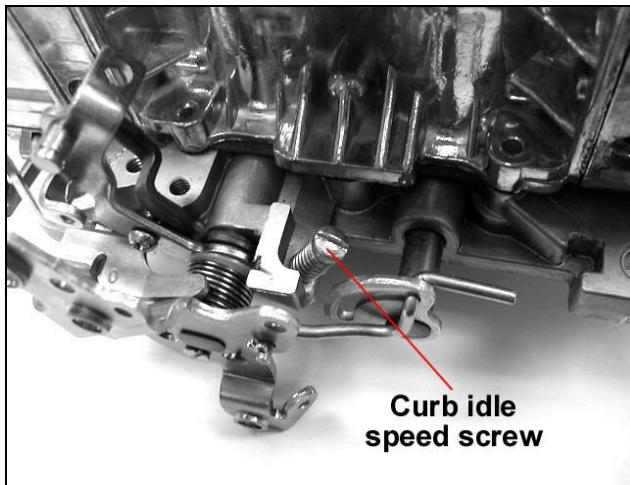

Figure 8
3. Now that the idle mixture is set, it may be necessary to go back and reset the idle speed using the curb idle speed screw, as shown in **Figure 8**.